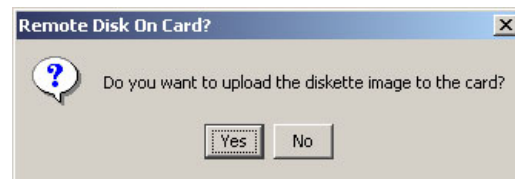

Figure 3-17 RSA II - Upload remote diskette
2. When you are asked to upload the content of the diskette drive as an image to the RSA II, you are presented with the dialog shown in Figure 3-17, where you have two options.